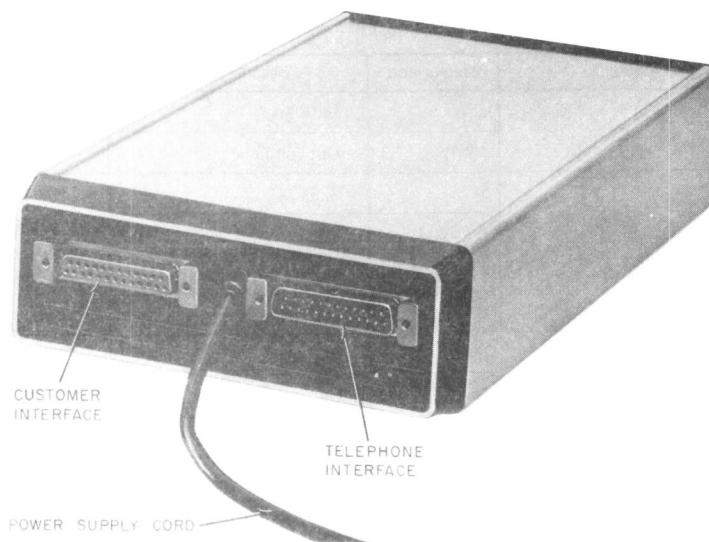

Fig. 4—Data Set 202S Rear View
**2.06** The housing is an extruded aluminum shell measuring 5.6 cm high, 14.7 cm wide, and 27.4 cm deep (2.2 in. by 5.8 in. by 10.8 in.). The set weighs 1 kg (2.3 lb) [1.5 kg (3.2 lb) with KS-21239 transformer] (Fig. 4). The front cover is molded black plastic with seven translucent designations and a cutout for the test switches. The rear cover is also molded black plastic with a cutout for the two interface connectors and the power cord.